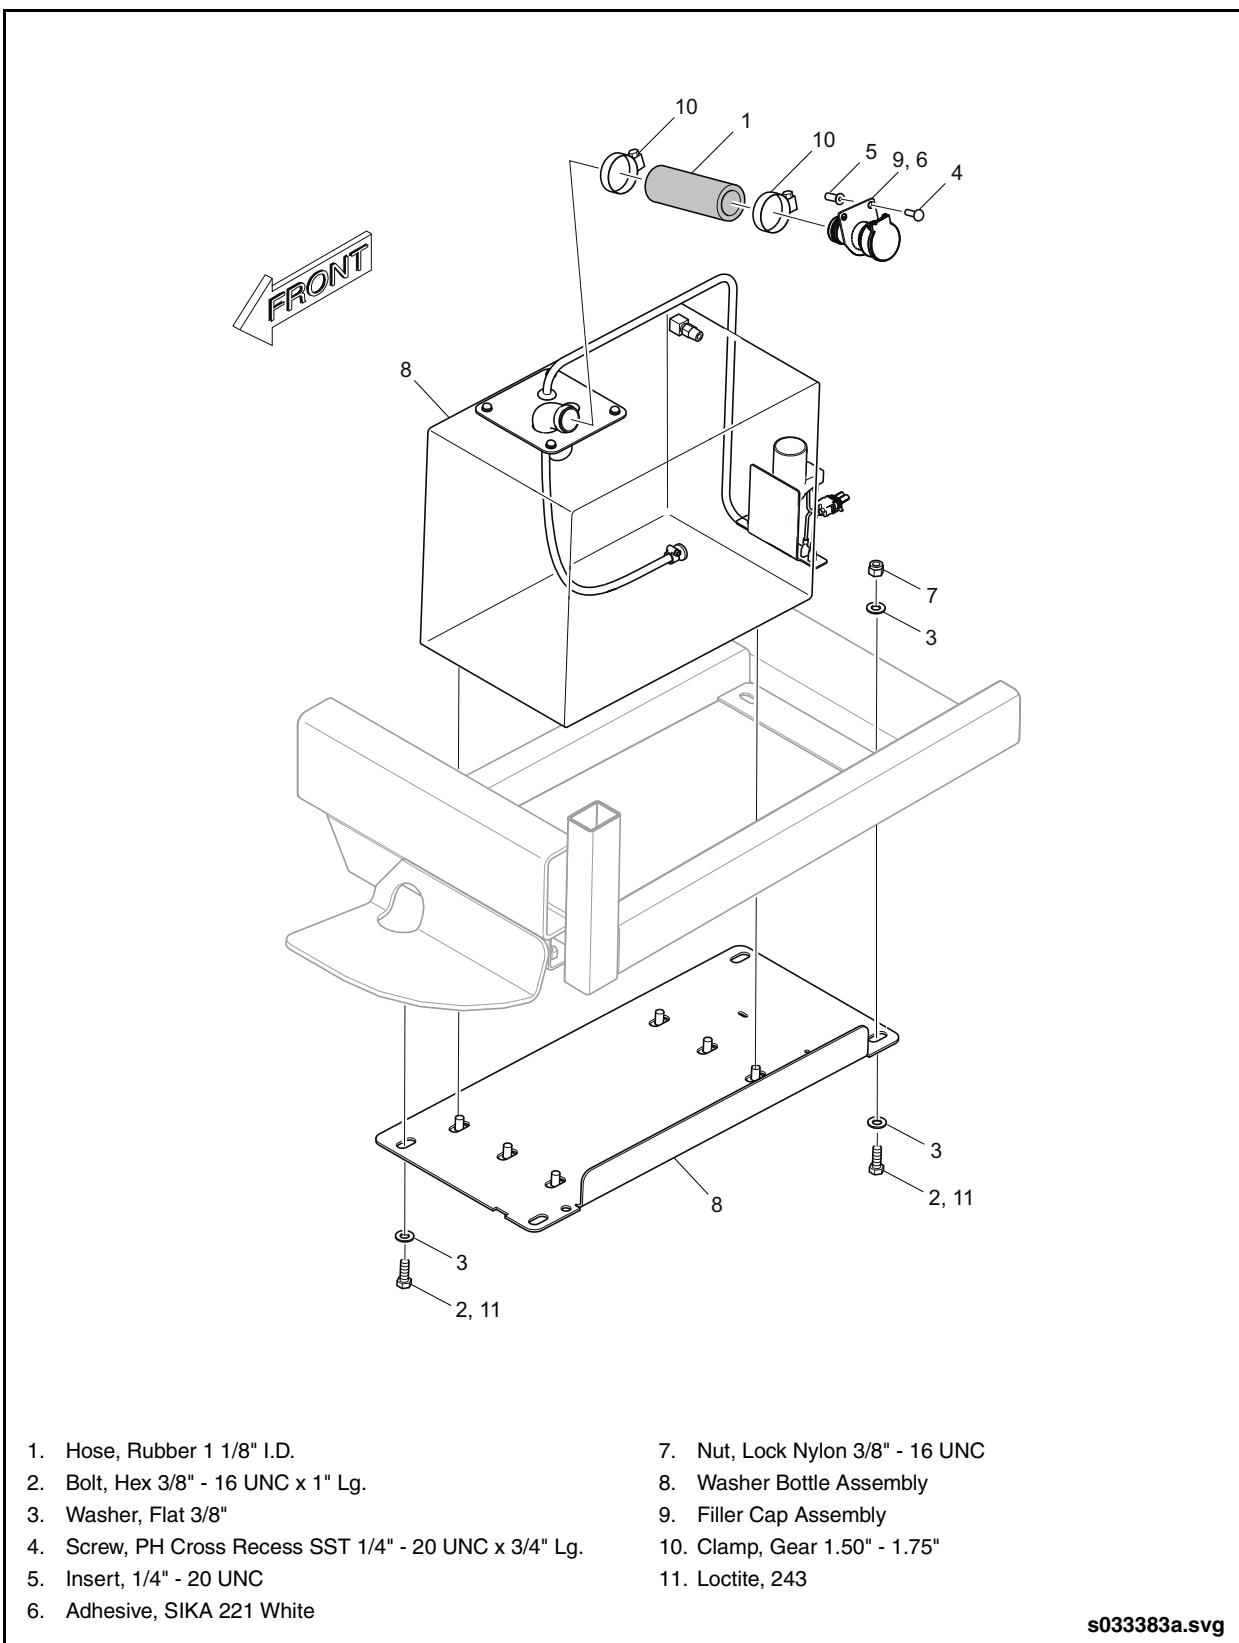

Fig. 13-22: Washer Bottle Installation
2. Disconnect hose between washer bottle and motor at motor. See "Fig. 13-22: Washer Bottle Installation" on page 55.